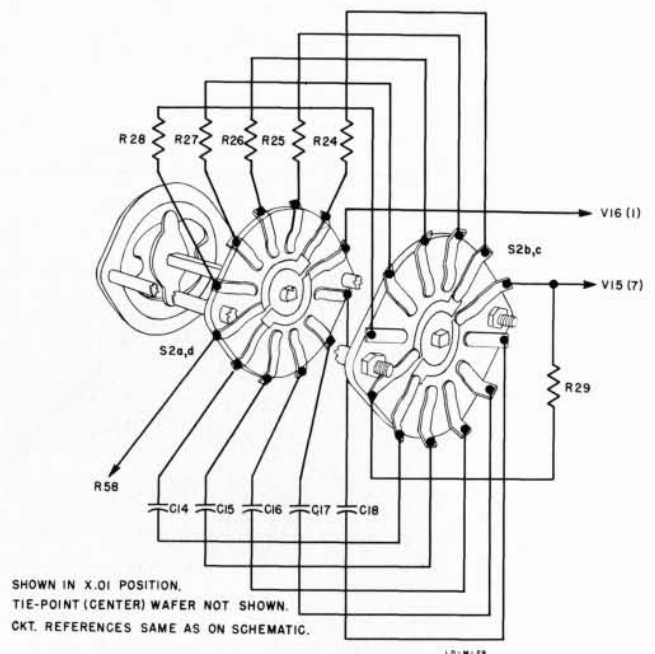

Figure 4-3. Rear View of S2 Range Switch
- 8) Check the calibration of the "X1" range. The output frequency should be within $\pm 2\%$ of the dial reading over the entire range. Adjust by substituting different resistor values for R26. The location of R26 is shown in Figure 4-3.